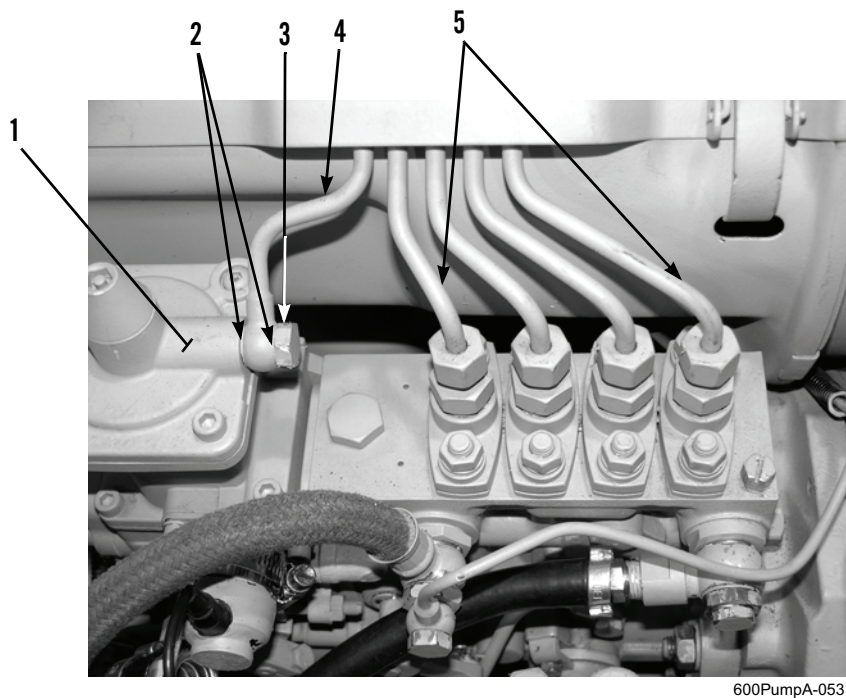

Figure 3. Fuel Injection Pump.
10. Remove fluid passage bolt (Figure 3, Item 3), sealing washer (Figure 3, Item 2), injector line (Figure 3, Item 4), and sealing washer (Figure 3, Item 2) from fuel injection pump (Figure 3, Item 1). Discard sealing washers.
11. Disconnect four injector lines (Figure 3, Item 5) from fuel injection pump (Figure 3, Item 1).